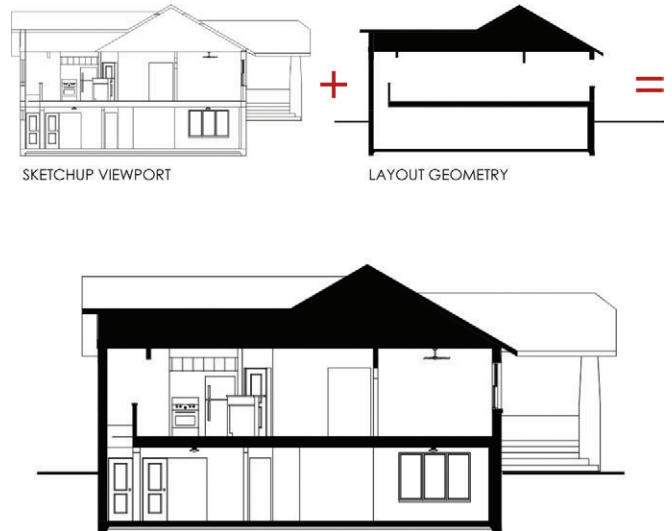

Figure 20.25 The building section drawing is a combination of a SketchUp viewport complemented with LayOut geometry
- ☑ Use the Drawing tools in LayOut to create fills and accentuate the 2D SketchUp drawings to give them more visual pop (Figure 20.25).